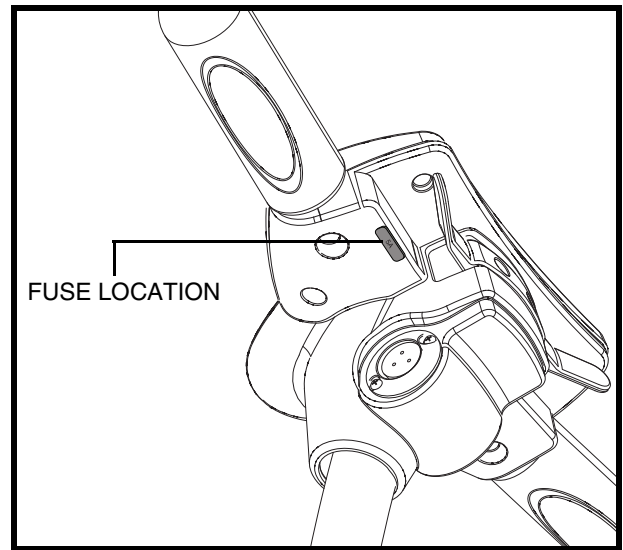

Figure 6. Off-board Charger Fuse
The fuse located on the underside of the tiller console protects the batteries during charging. See figure 6. In the event the batteries will not charge, check this fuse. See VIII. "Basic Troubleshooting" for fuse replacement instructions.
- Ensure that the fuse on the tiller console is in working condition. See figure 6.